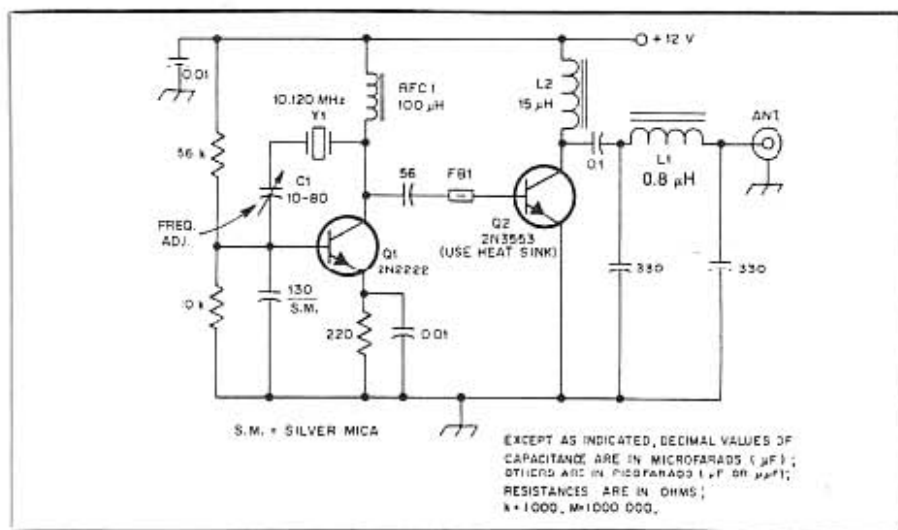

Fig. 1 — Schematic diagram of a simple 30-m transmitter built by KB4PY. Resistors are 1/4-W, carbon-composition types. Capacitors are disc ceramic, except C1.
The FCC purity of emissions requirement is more liberal at power outputs under 5 W. A five-section low-pass filter (FL1 of Fig 1) is ample to comply with regulations. A seven-element filter would offer greater attenuation of the 2nd and 3rd harmonics, should that be your desire. My filter constants were obtained from the normalized filter tables in the transmitting chapter of *The ARRL Handbook*. I chose an  $f_{co}$  (cutoff frequency) of 8 MHz. The ripple factor is 0.01 for FL1. The ripple indicates the relative flatness (lack of amplitude dips and peaks) of the peak portion of the filter response curve.
You will note in Fig 1 that a TR (transmit-receive) circuit is included. Q3 is a PNP dc switch that applies operating voltage to Q1 when the key is closed. Key closure shorts the base of Q3 to ground, and this causes it to conduct. During conduction, +12 V is connected to Q1 through the junction of Q3. The keyed +12 V is routed also to NPN switch Q4. This transistor also conducts when the key is closed. At full saturation the Q4 collector-emitter junction closes and this shorts the receive antenna line to ground through Q4. D2 and D3 also accomplish this function, but leave a residual RF voltage of 0.7 V RMS on the receive line. The shunt-diode
Waveform shaping is accomplished in Fig 1 by means of C16, C17, R11 and R12. Bypass capacitors in the keyed circuit (such as C5 and C15) also affect the shaping.
The shaping-network values in Fig 1 ensure a keyed waveform that is clickless, but hard enough to give "presence" to the CW note. The frequency-control values for the VXO in Fig 1 prevent the signal from sounding chirpy when the VXO is keyed by Q3.
Fig 1—A schematic diagram of the QRP transmitter for 30-meter operation. Fixed-value capacitors are disc ceramic. Inductor cores are available from Amidon Associates or Palomar Engineers.1,2 The enclosure is from Radio Shack® (RS-270-251), and the circuit board is from Circuit Board Specialists.3 An etching pattern for this circuit appears on p 11.
□ Fig 1 shows an inexpensive transmitter for the 30-meter band. The combination of excellent propagation characteristics and a relatively low QRM level on this band make solid communication routine at QRP levels. The circuit shown was adapted from a W7ZOI design shown in "Experimenting for the Beginner" by Doug DeMaw, W1FB, in the September 1981 issue of *QST*. The transmitter can be put on 30 meters with relative ease.
came up with the one shown at Fig. 1. The circuit is simple and inexpensive. It uses fundamental-type crystals in FT-243 holders, which are easy to obtain from a variety of sources. The transmitter output is almost 1.5 W, and the harmonics are 34 dB down from the fundamental. With a reasonably stocked junk box the total cost for this transmitter should be under \$10.